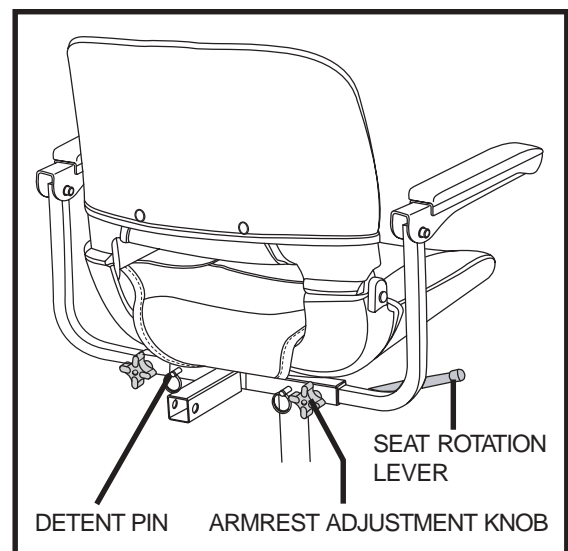

Figure 17. Seat Adjustments
1. Pull up on the seat rotation lever. The lever is located on the right side of the seat. **See figure 17.**
1. Loosen the armrest adjustment knobs. **See figure 17.**